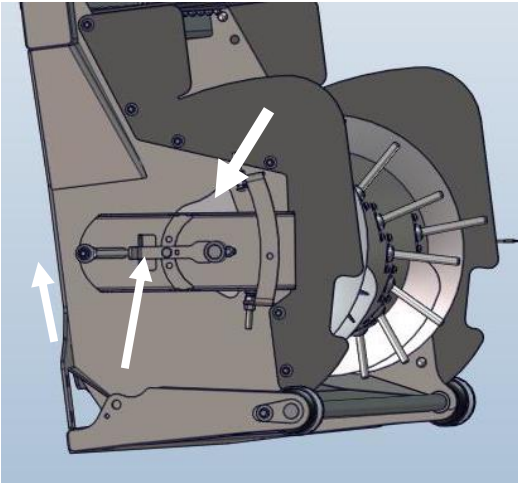

Figure 33
6. On the right-hand side remove the Finger timing arm and the limit bracket. The mounting plate assembly can now be removed by removing the rear mounting bolt. Figure 33